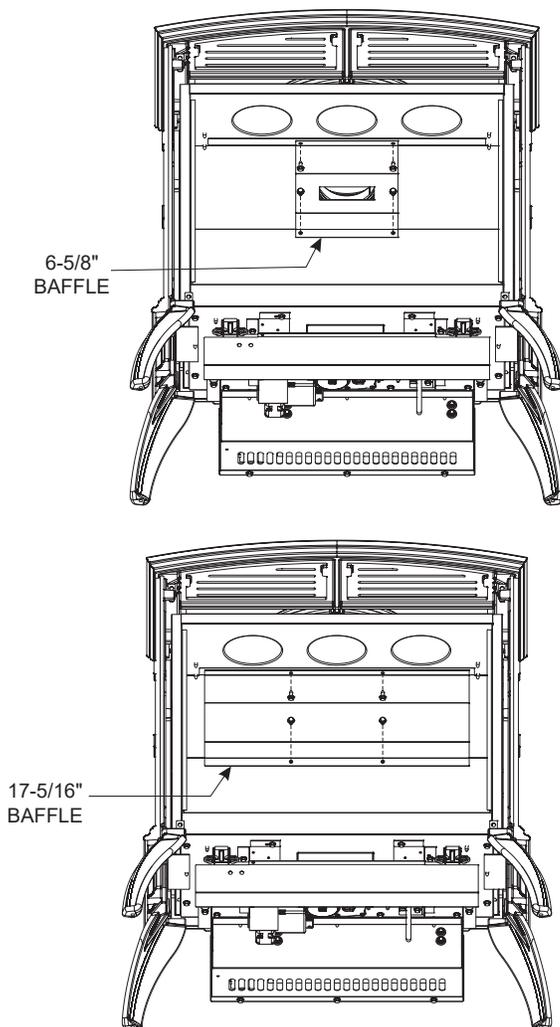

Figure 1
22. Remove flue vent baffle (6-5/8" wide). Install new flue vent baffle (17-5/16" wide). See Figure 1.